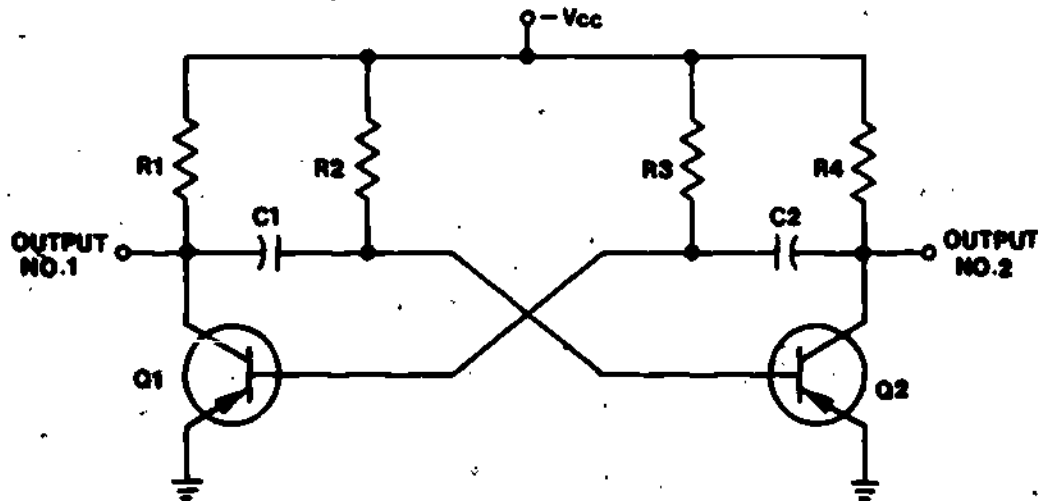

Figure 2
2. Does the schematic in Figure 2 look familiar? It is similar to the flip-flop schematic.
In Figure 2, if Q1 is saturated, Q2 must be _____.